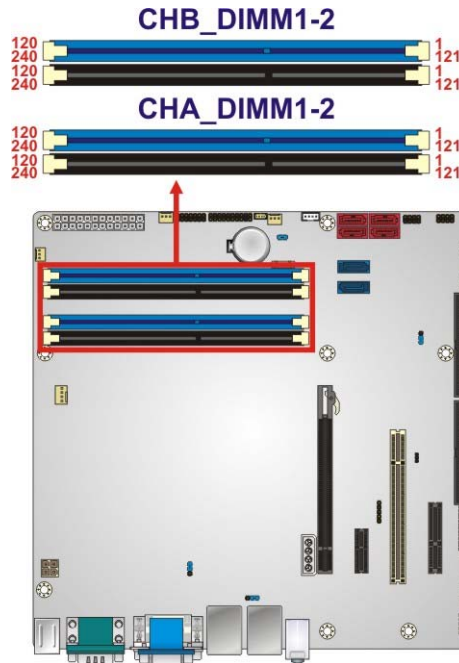

Figure 3-11: Memory Card Slot Location
- CN Location:** See **Figure 3-11**